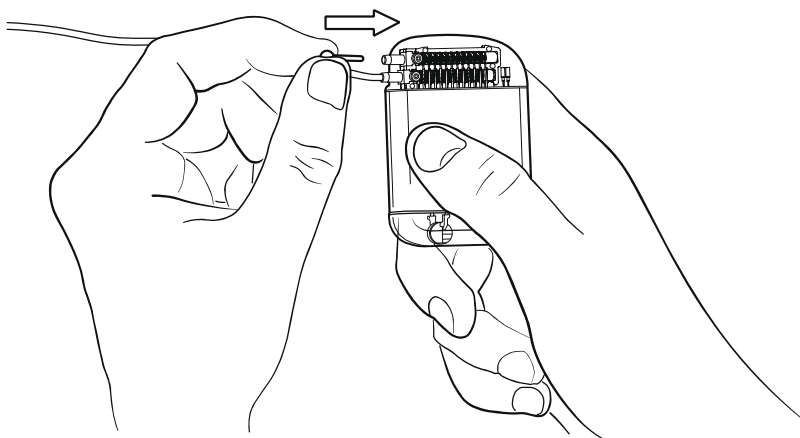

Figure 6.5: Inserting the port plug.
8. If you are using only one lead, place the CLS port plug in the unused port to prevent moisture ingress (refer to Figure 6.5). Ensure that you push the port plug into the silicone strain relief.